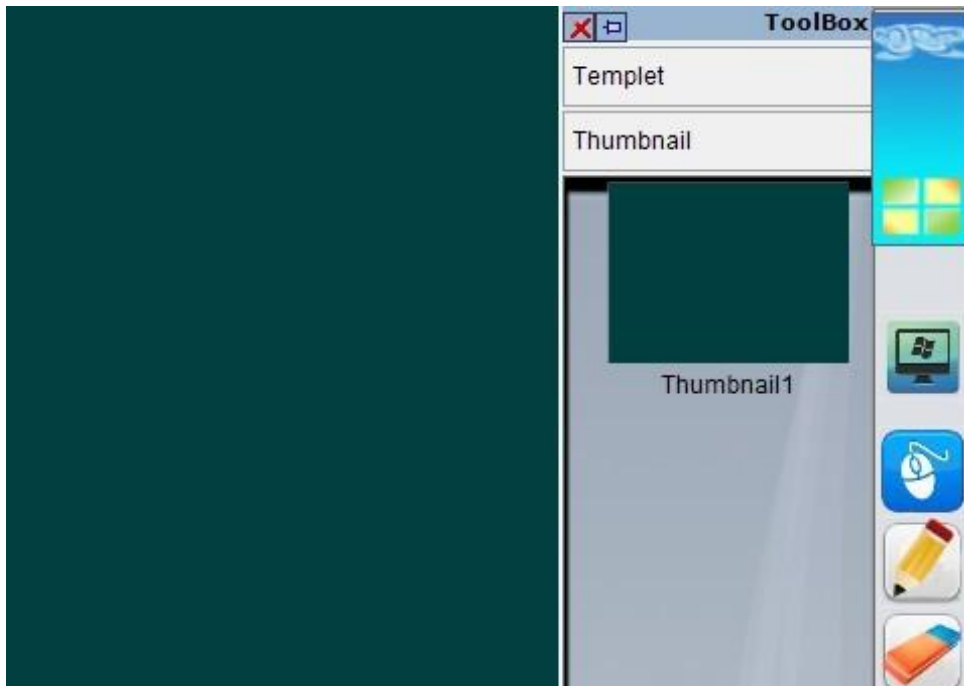

Fig 3.2.1
1) Toolbox, click , TMK and Thumbnail show up as fig3.2.1
First, open a TBK file which you are going to present. Then, click ToolBox toolbar, right-click in the blank area of "TMK" Panel (see Fig3.2.1), click on the "Insert TMK" menu item to insert the TMK file. The content of inserted TMK will be shown as thumbnails in the TMK panel of ToolBox toolbar after insertion. Drag a thumbnail into the current page to insert it into the working area. Select "Delete All" to unload the TMK, all thumbnails will be cleared.